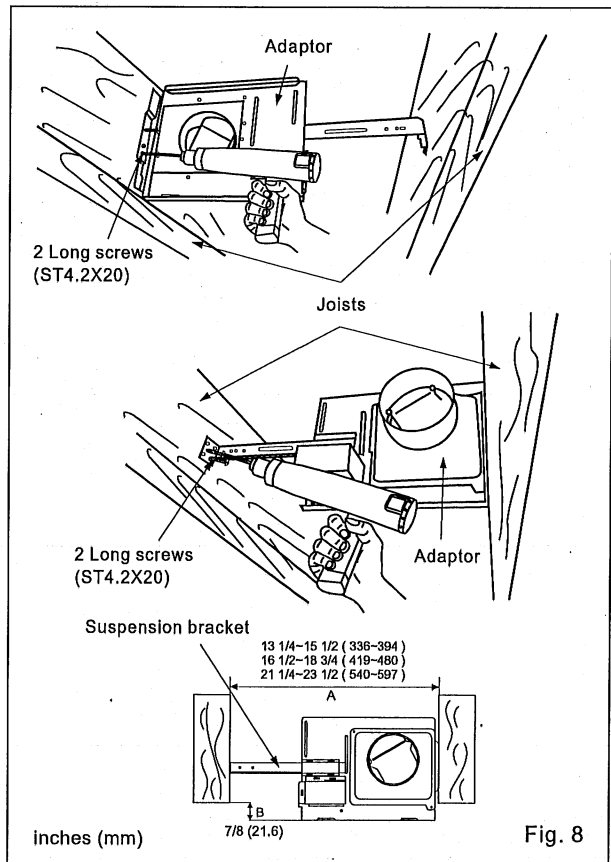

Fig. 8
2. Insert the suspension bracket into the adaptor and secure it to joists by using long screw (ST4.2X20). (Fig.8) Ensure that distance B (7/8 inch, 21.6mm) for the thickness of ceiling board.
3. Remove adaptor from fan body and secure it to joists as in Fig.8 of page 8.